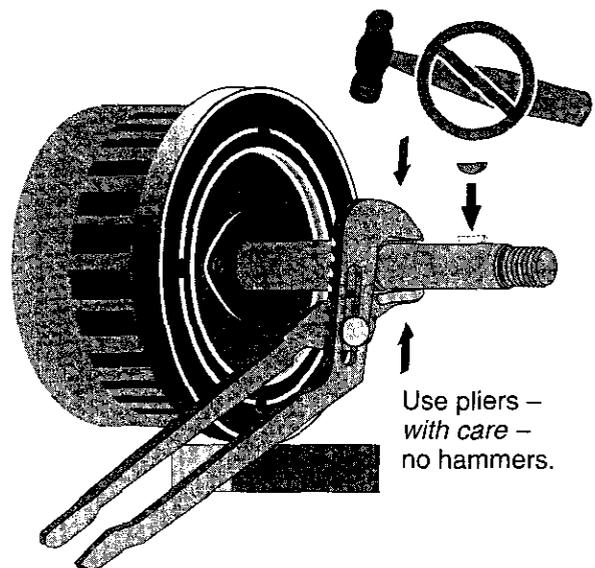

Figure 26
3. Make sure that the shaft keys are in place on the shaft. If they are not, squeeze them in place now with slip joint pliers. *Do not tap them or hit them with a hammer; you could bend the shaft* (see Figure 26). When the keys are correctly installed, the adapter will pass over the keys without interference.